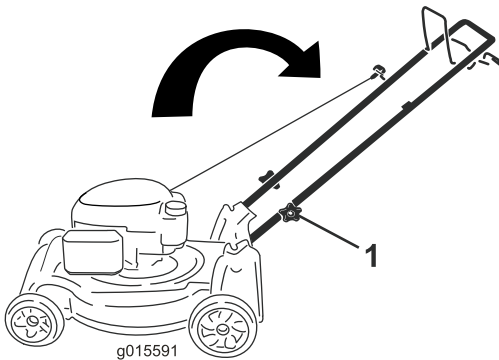

Figure 4
1. Handle knob (2)
2. Move the handle to the operating position (Figure 4).